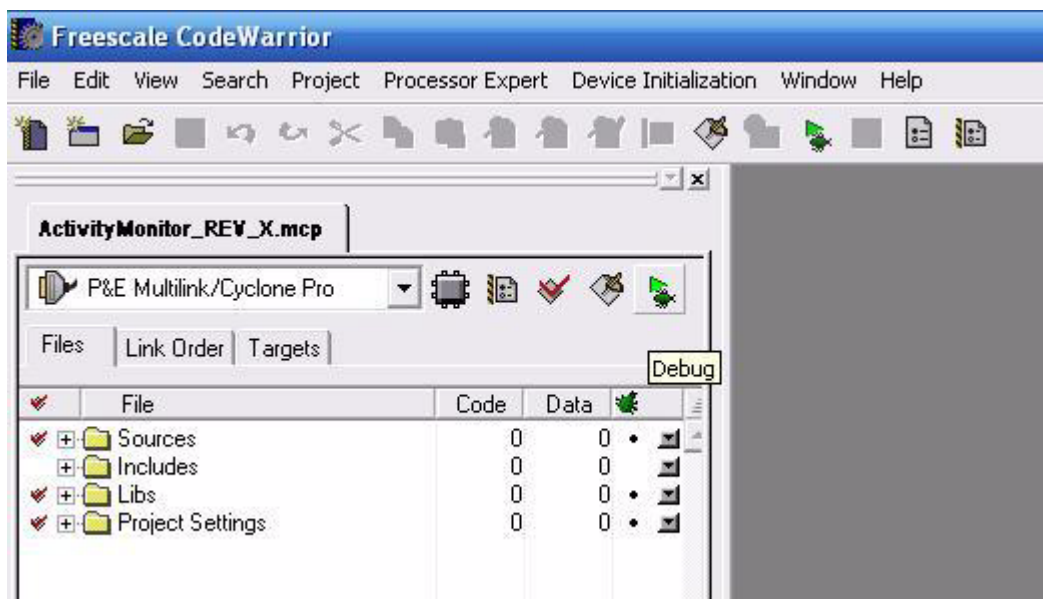

Figure 3-2. IDE configuration
5. Now you are ready to open a CodeWarrior project "ActivityMonitor_REV X.mcp". Make sure the debug mode is set to "P&E Multilink/Cyclon Pro" and that you have the same values for the options as shown in Figure 3-2. Click on "Debug" under Project in the menu bar, or hit F5. The "P&E MCF51MMxx Connection Manager" window should appear.